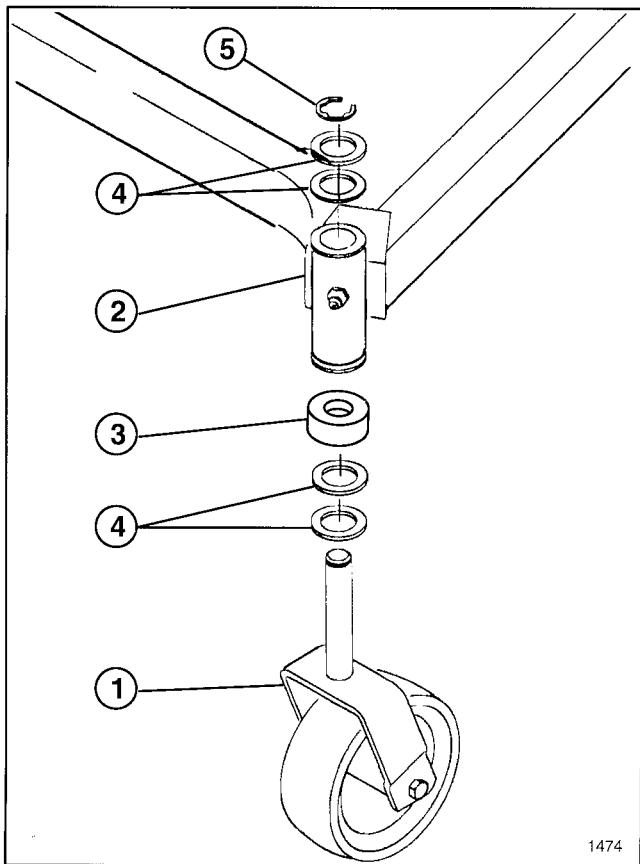

Figure 1
1. Place (2) thrust washers onto castor wheel shaft (Fig. 1).
2. If cutting unit is to be mounted on a traction unit with a serial number of 590001 & up, position a caster wheel spacer (Fig. 1) below carrier frame, when mounting castor wheels. When mounting cutting units on traction units with serial number prior to 491352 place the spacer above carrier frame.
3. Insert shaft into carrier frame mounting tube. Install (2) thrust washers and secure with retaining ring (Fig. 1).